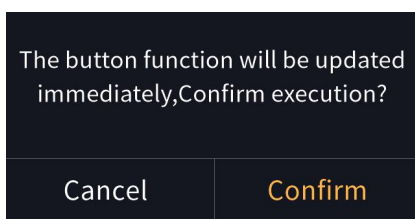

Fig.2.3.17
(3) Complete the customize link. Touch icon^⑮ to complete the customize setting for button linking to the functions, then pop up the window as shown in Fig.2.3.17, save the setting after clicking “Confirm” and return the previous interview, the operated button functions will be updated immediately. If cancel current configuration, touch icon^⑭ to exit the customize setting for button linking to the functions and return the previous interview.